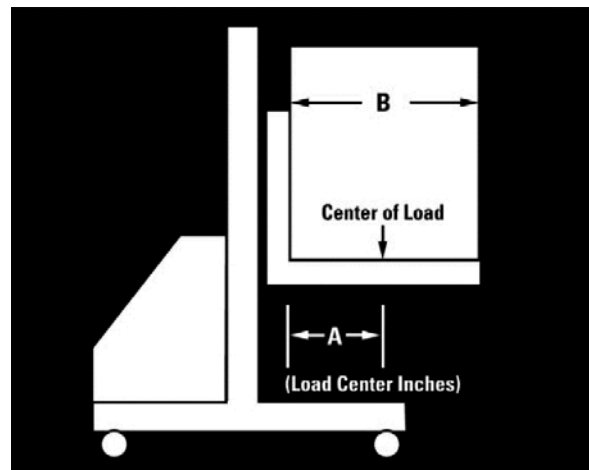

Figure 1
4. Do not exceed load center capacity of stacker. Load center is measured horizontally from back of forks or platform. See *Figure 1*. Load center (A) is 18" on the JWS-770A Stacker.